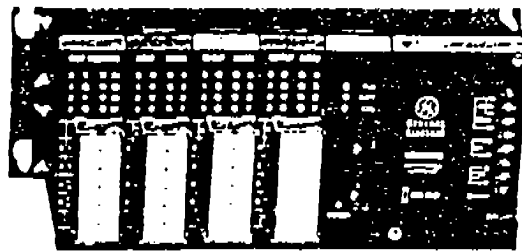

Figure 2
- B. Remove program keyboard by squeezing the snap locks top and bottom (see Figure 1) towards the center and pull keyboard off unit (see Figure 2).